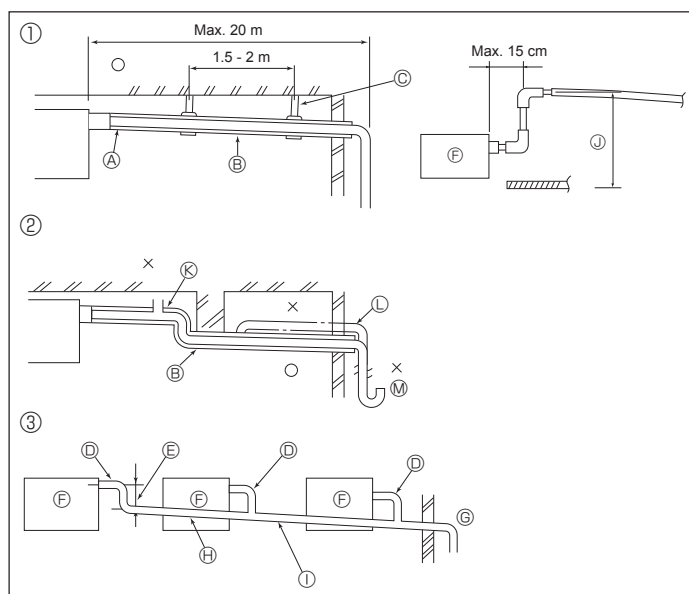

Fig. 4-4
4.5. Drainage piping work (Fig. 4-4)